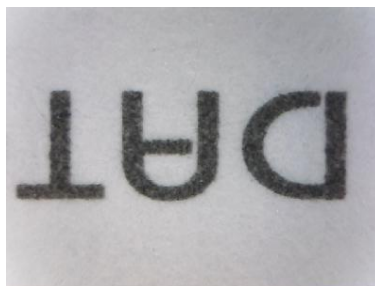

Fig.3-21 Video image becomes horizontal flip
- ⊕ Vertical and horizontal Flip “”: The video image will do horizontal and vertical flip shown in Fig.3-21.